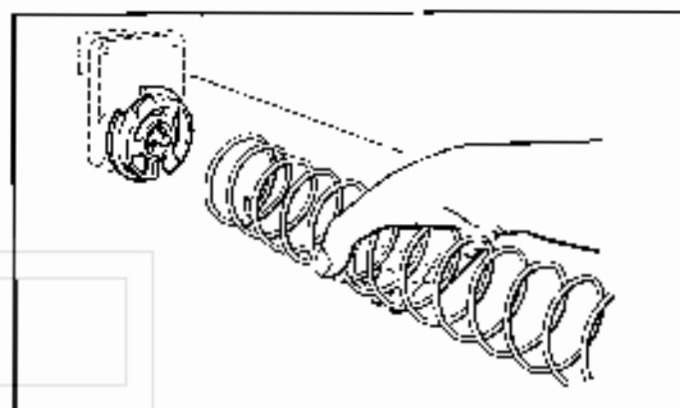
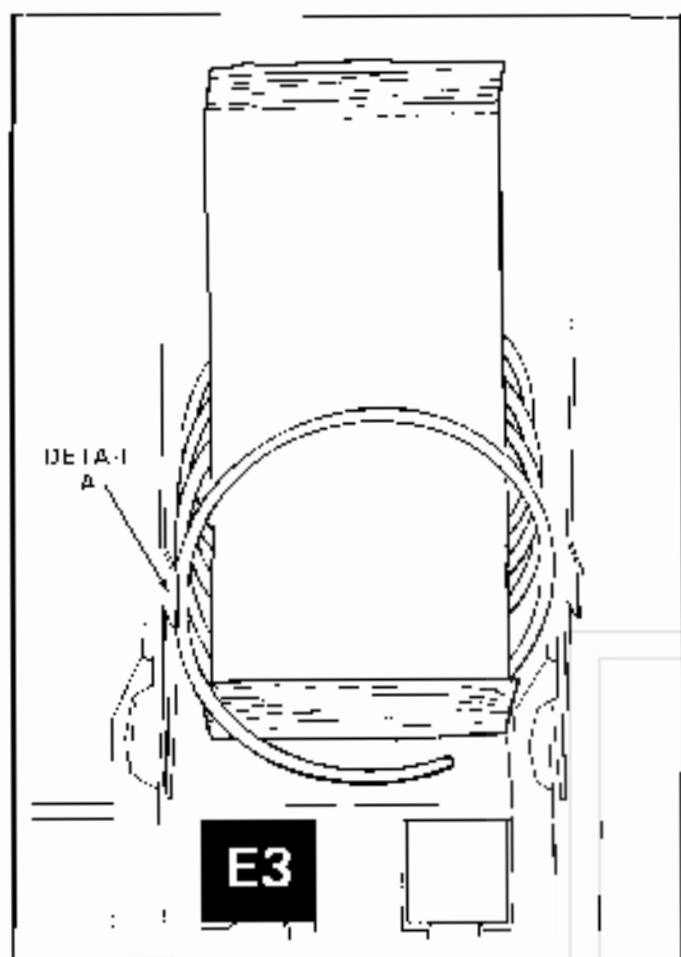

Figure 3. REMOVING AND INSTALLING SPIRAL.
Figure 5. PLACEMENT OF PRODUCT ON MAIN PRODUCT CANDY SHELVES AND FRONT END POSITION OF SPIRAL.
4. **REMOVAL OF SPIRAL:** Grasp the front of the spiral and turn it clockwise. Lift the spiral up and off of the spiral lock. When replacing a spiral attach it around the tab on the spiral lock and turn the spiral counterclockwise to lock it in place. Be sure the front end of the spiral is positioned properly (with the front end of the spiral pointing downward on the left side) (see Figure 3). The spiral lock is attached between the spiral retainer tabs. Give a light forward pull on front of the spiral to check if it is locked in place.
6. **LOADING MAIN PRODUCT CANDY SHELVES:** The 8-selection (candy type) shelves are loaded similar to the 4-selection shelves except that the bottom of the product sits on the shelf in front of the spiral wire (see Figure 5) that rests on the shelf. These products must also fit prop-
erly in the spiral space; do not "over produce" the spiral. These spirals are removed and installed the same as the large spiral (see Figure 3), except that the front end position is different (approximately 5 o'clock) (see Figure 5) and the front left side of the spiral must be behind the small tab located on the left side of the product space side wall (see Figure 5, Detail A).